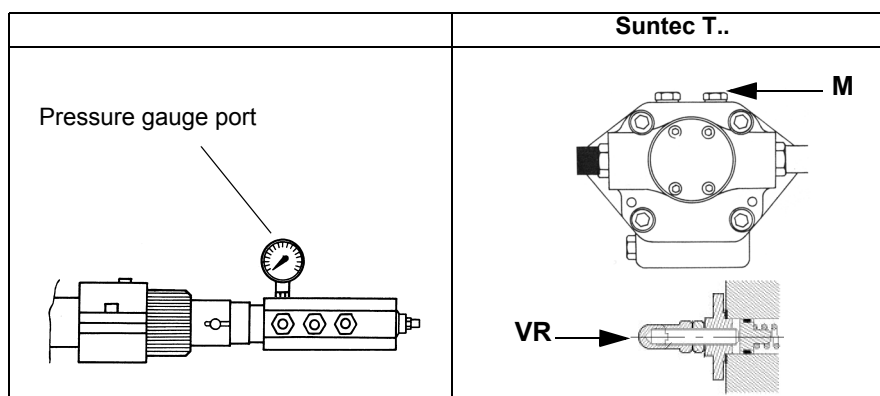

Fig. 6
- 3 bleed the air from the **M** pressure gauge port (Fig. 6) by loosening the cap without removing it, then release the contactor.
- 4 Only if necessary, adjust the supply pressure as follows (see related paragraph); insert a pressure gauge into the port shown on Fig. 6 and act on on the pump adjusting screw **VR** (see Fig. 6) as to get the nozzle pressure at 25bar (according to the nozzle model provided- see page 27).